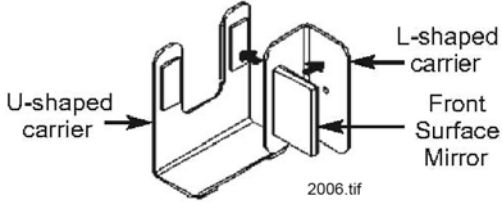

Fig. 7. Diagram of front surface mirror assembly
2. Magnetically mount a front surface mirror on L and U-shaped carriers Fig. 7. Attach it to the optical platform at location C. Adjust the mirror so the laser beam strikes its center and the reflected beam is returned to the laser. However, be careful that the beam does not actually re-enter the laser aperture.